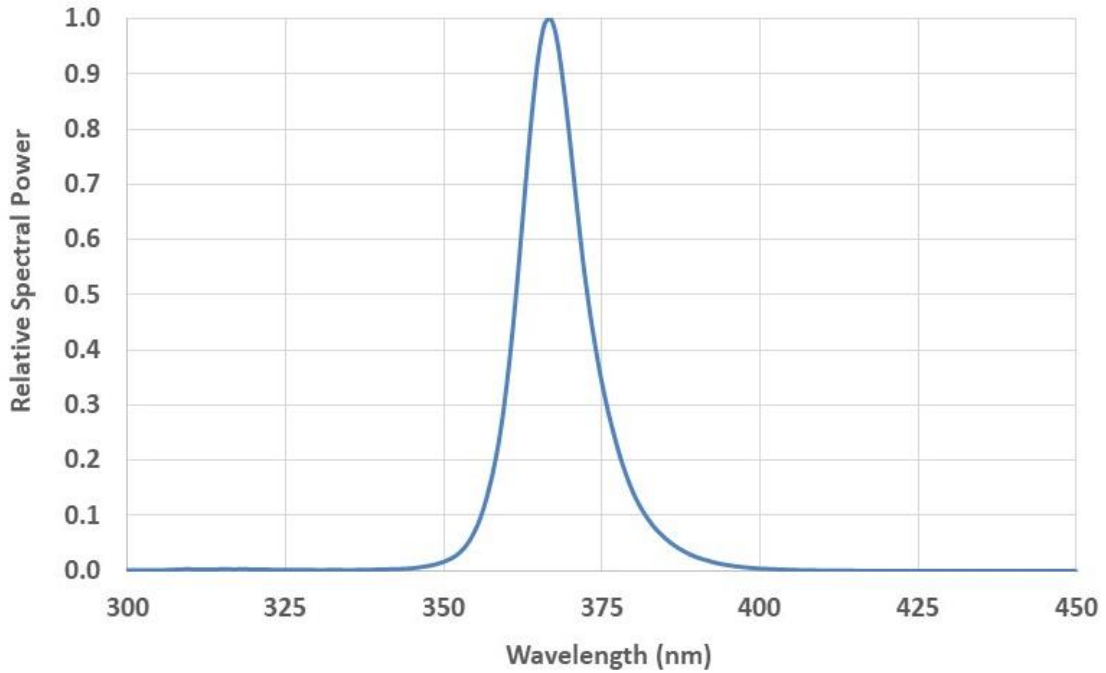

Figure 5: Typical relative spectral power vs. wavelength @ T_c = 25°C.
- Solder conditions per JEDEC 020D. See *Reflow Soldering Profile* Figure 5.